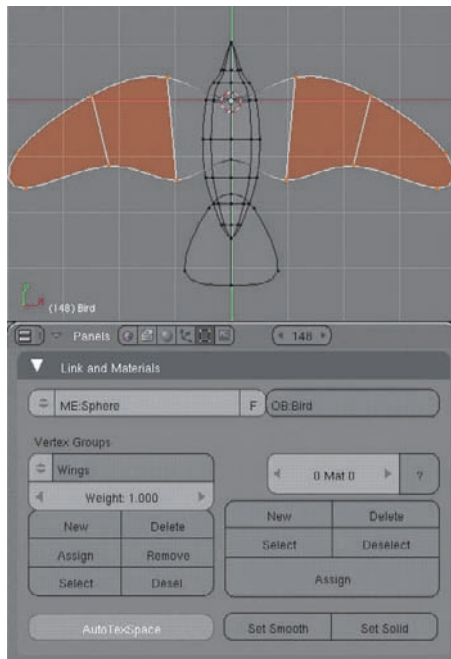

Figure 2.64
2. Create a vertex group by clicking New under Vertex Groups and typing the name *Wings*. Assign vertices to this group as shown in Figure 2.64 by selecting those vertices and clicking Assign.